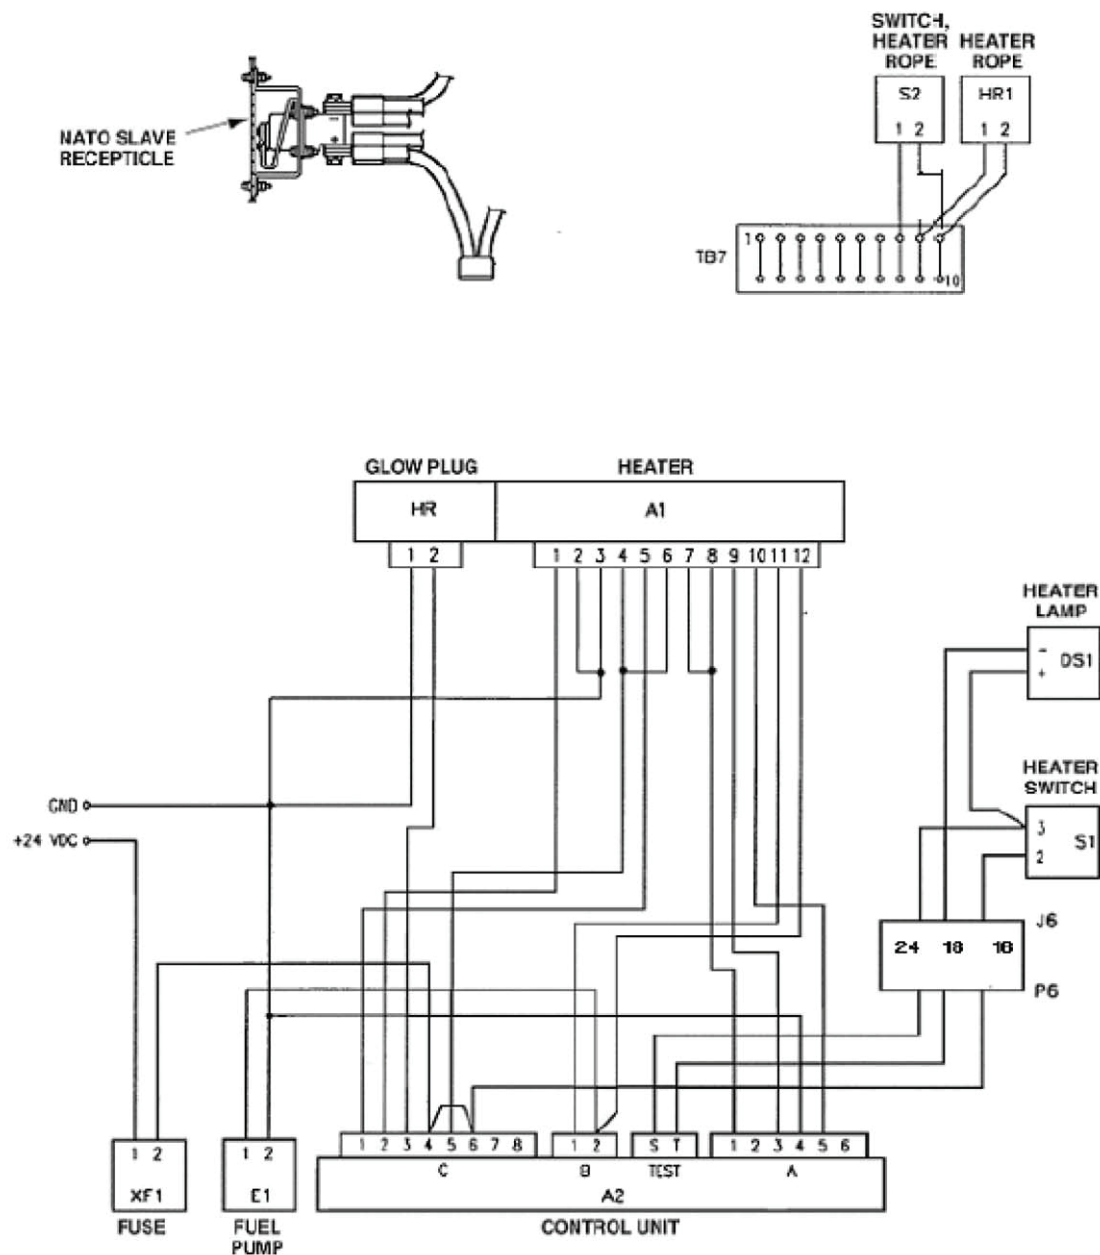

Figure 1. Wiring Harness Maintenance.
2. Refer to Figure 1 and connect leads and plugs.